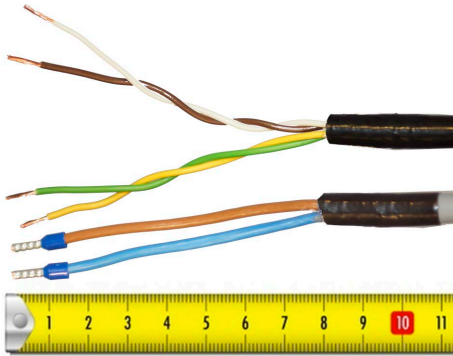

Figure 8: Cable Preparation Receiving Cable Sides
3. Attach the isolated cable end to the metal saddle on the rear of the instrument. See *Figure 8: Cable Preparation Receiving Cable Sides* on page 14.